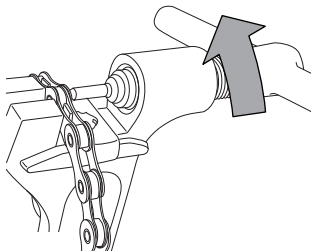

Fig.3
- tighten the tool until the small pin emerges completely from the hole in the link (Fig. 3).